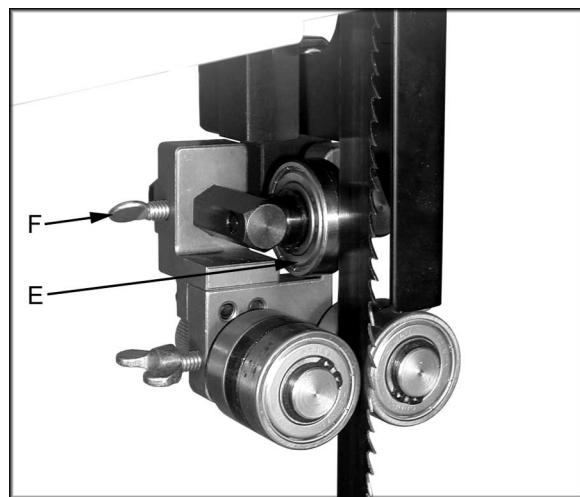
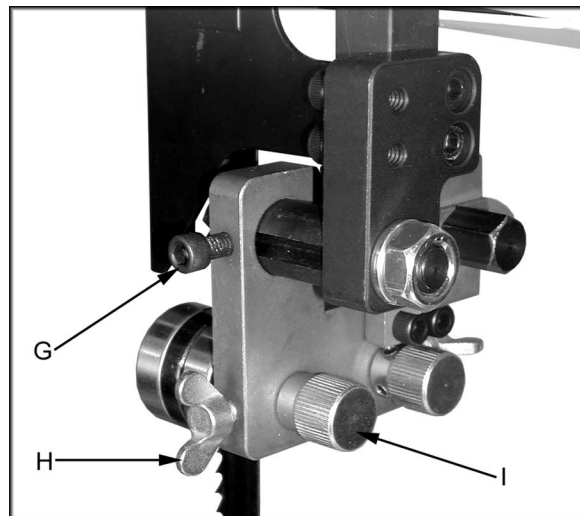

Figure 2
Figure 3
2. Adjust the back-up bearing (E, Figure 2) so that it is 0.003" away from the back of the blade, about the thickness of a piece of paper. To make this adjustment loosen thumb screw (F, Figure 2) and slide the bearing and bearing post into position. Tighten thumb screw.
3. Loosen the socket head cap screw (G, Figure 3) and slide the bearing assembly until the bearing guides rest just behind the gullet of the blade teeth. You may need to readjust the back-up bearing (E, Figure 2).
4. Loosen the wing nut (H, Figure 3) and turn the adjusting screw (I, Figure 3) clockwise or counterclockwise until the bearing is 0.003" away from the side of the blade, about the thickness of a piece of paper. Tighten wing nut (H, Figure 3).